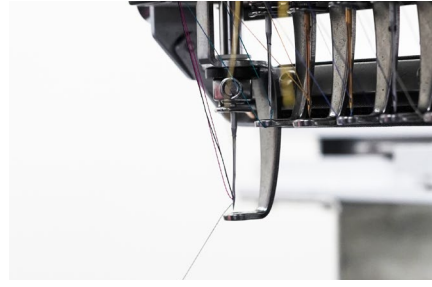

Figure 16
4. Next, grab the thread from above the presser foot and pull it carefully through until you no longer see any of the old thread. While you pull the thread, you will see the new thread and the knot you created traveling through the thread path. Continue to pull until the knot you created passes the last point in the thread path before the needle. **See Figure 16.**